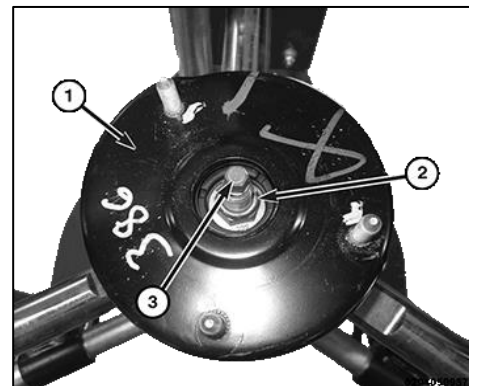

Figure 9
8. Install the shock absorber shaft nut (2) on shock shaft (1). Tighten to the 74 Ft. Lbs (100 Nm), while holding shock shaft from turning. <Figure 9>